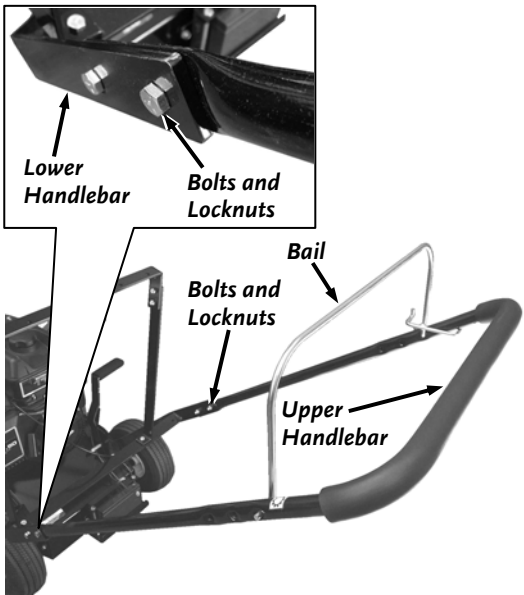

Figure 7
3. Take the Upper Handle Bar Assembly with the Bail on top and slide the flat ends of the Upper Handle inside the Lower Handle. Secure with four 5/16-18 x 1" Bolts and four 5/16-18 Nylon Locknuts (**Figure 7**).